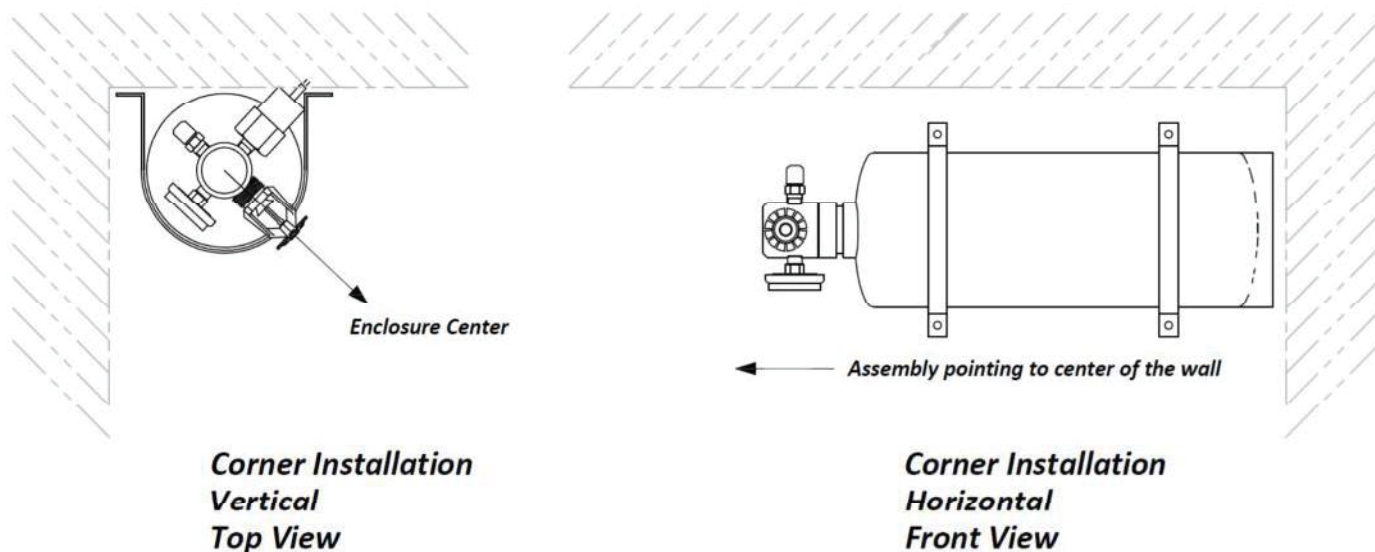

Figure 04- Corner installation
- The sprinkler must discharge horizontally, and towards the main hazard in the space or towards the centre of the space being protected, see Figure 04.